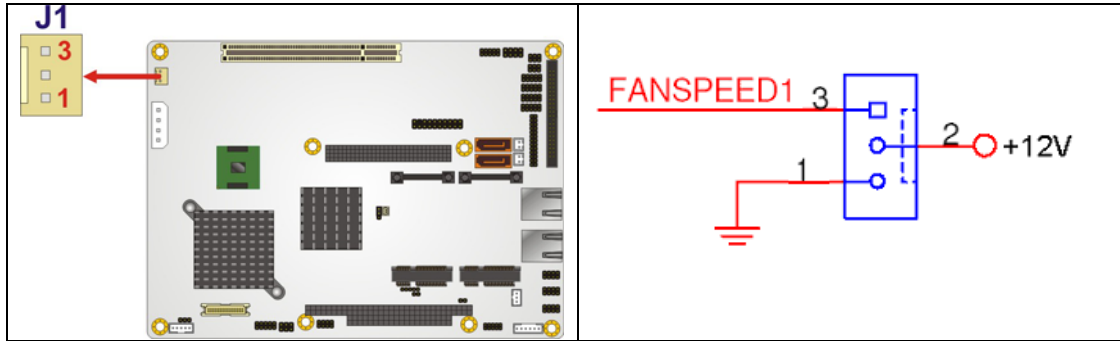

Figure 4-10: +12V Fan Connector Location
- CN Location:** See **Figure 4-10**